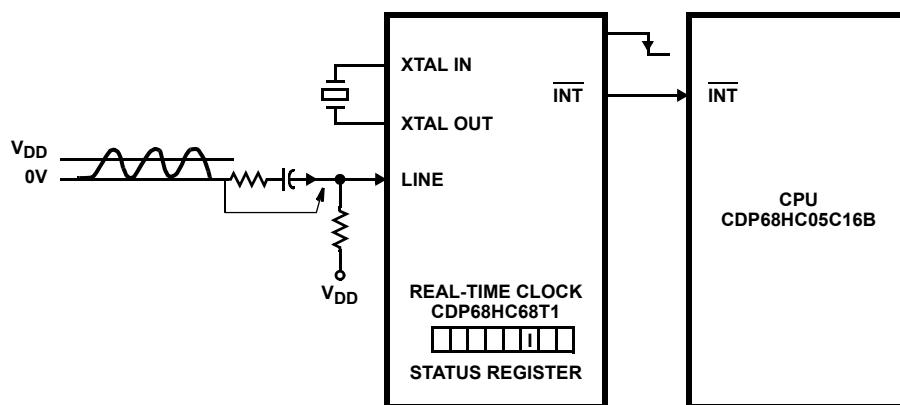

FIGURE 3. POWER-SENSING FUNCTIONAL DIAGRAM
**Power Sensing** (See Figure 3)